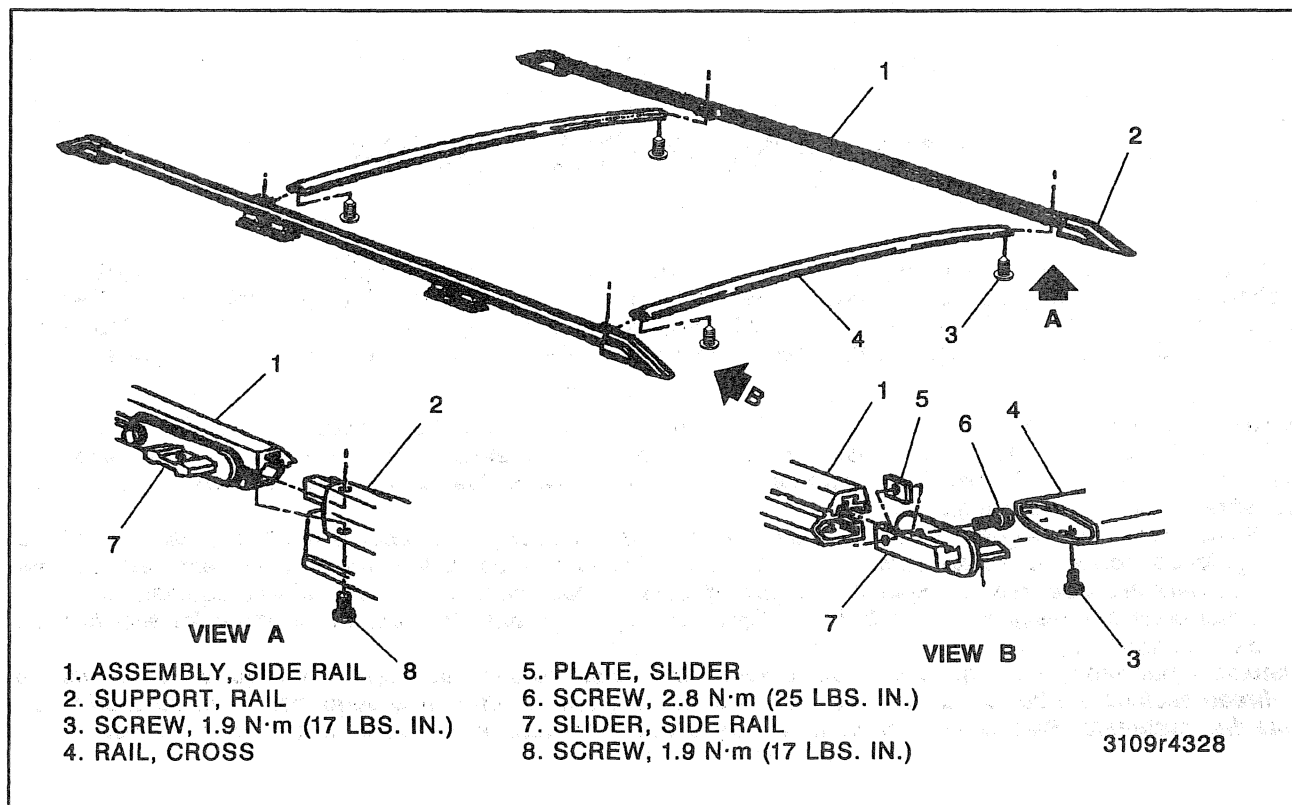

Figure 1—Luggage Carrier Components
1. Remove screws from the side rail supports (figure 1).
Install or Connect (Figures 1, 2, and 3)